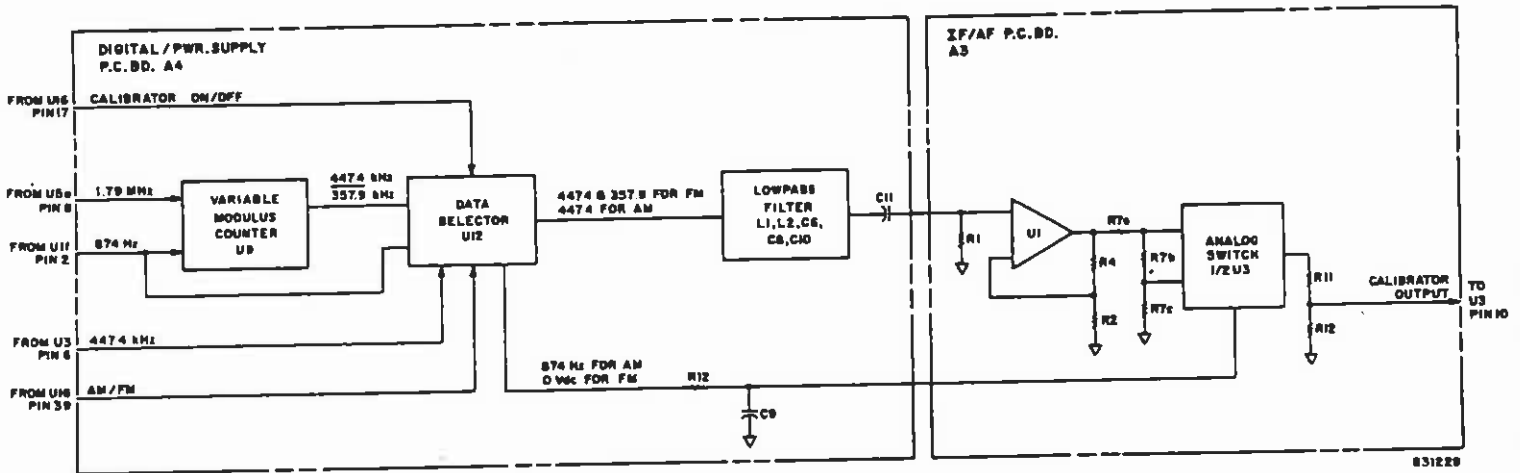

Figure 3-5. Calibrator Circuits: Detailed Block Diagram
c. **Calibrator Circuits.** The calibrator circuits provide the reference calibration signals for the 8210's a.m. and f.m. detectors. See Figure 3-5. (In addition to the circuit description given below, technical information on design and operation of the calibrator circuits appears in Appendix A.)